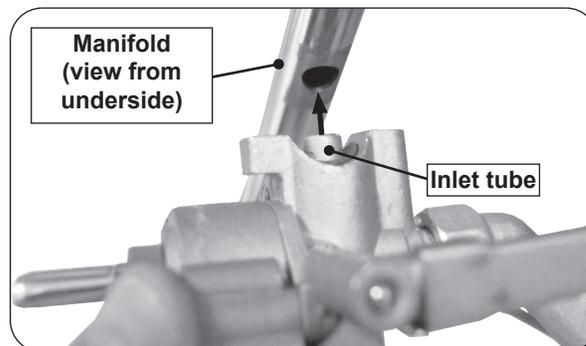

Fig. 2-2 Attach new valve to manifold
- Align the new valve assembly to the manifold and insert the gas valve inlet tube to the exposed hole on the manifold (see Fig. 2-2).